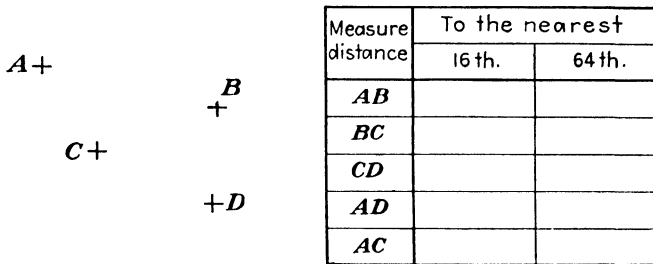

Fig. 8.
4. Measure the distance between the points in Fig. 8 to the indicated degree of accuracy.